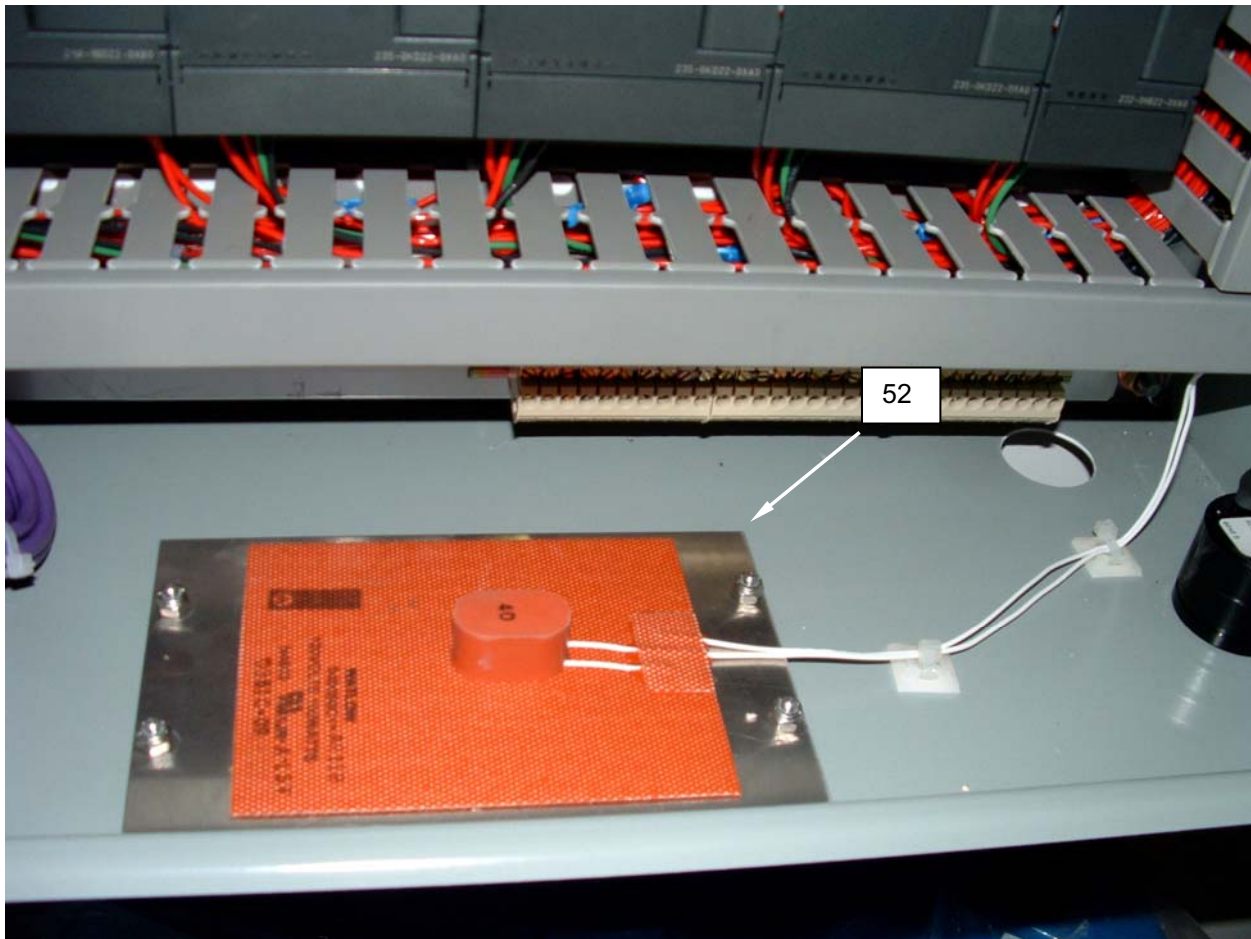

Figure 26. Test the Electric Box Heater.
3. Tag and disconnect wiring from heater (**Figure 26, Item 52**). It may be necessary to cut and strip the heater wiring to test the heater.
5. Connect wiring to heater (**Figure 26, Item 52**) as tagged.